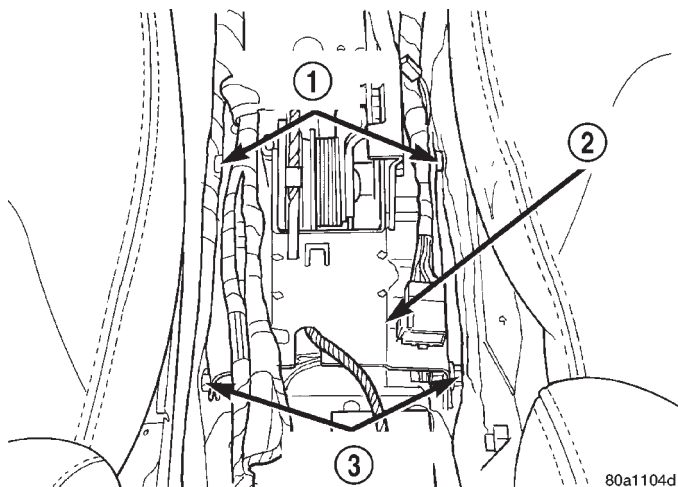

Fig. 131 Park Brake Lever Attaching Bolts
(13) Loosen **but do not remove** the 4 bolts attaching the park brake lever to the console bracket (Fig. 131).
(1) Install the parking brake lever on the console bracket using the following procedure. First slide the front of the park brake lever bracket on the 2 forward mounting bolts, then rotate the rear of the bracket downward onto the 2 rear mounting bolts. Tighten the 4 attaching bolts (Fig. 131) to a torque of 24 N·m (20 ft. lbs.).